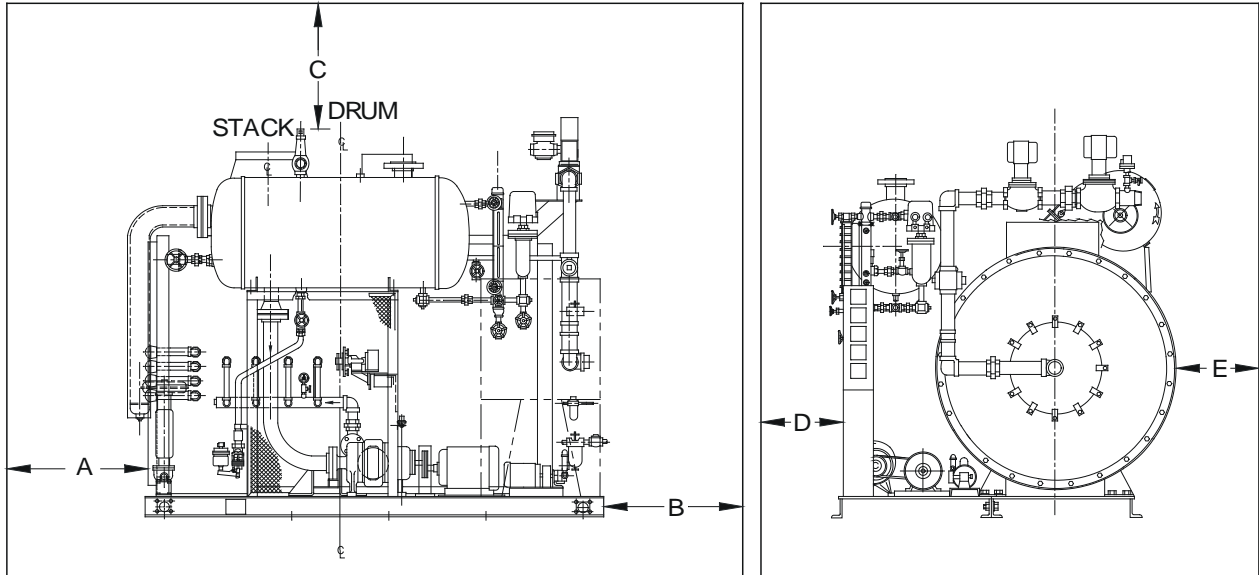

Figure 4. Boiler Clearance Dimensions
5.1 Table 2, as illustrated by Figure 4, gives the dimensions Vapor Power considers as minimum to provide reasonable accessibility for maintenance work on the heating surfaces; removal of burners and combustion components; replacing working parts; and for adjusting, cleaning, and lubricating parts which require attention.